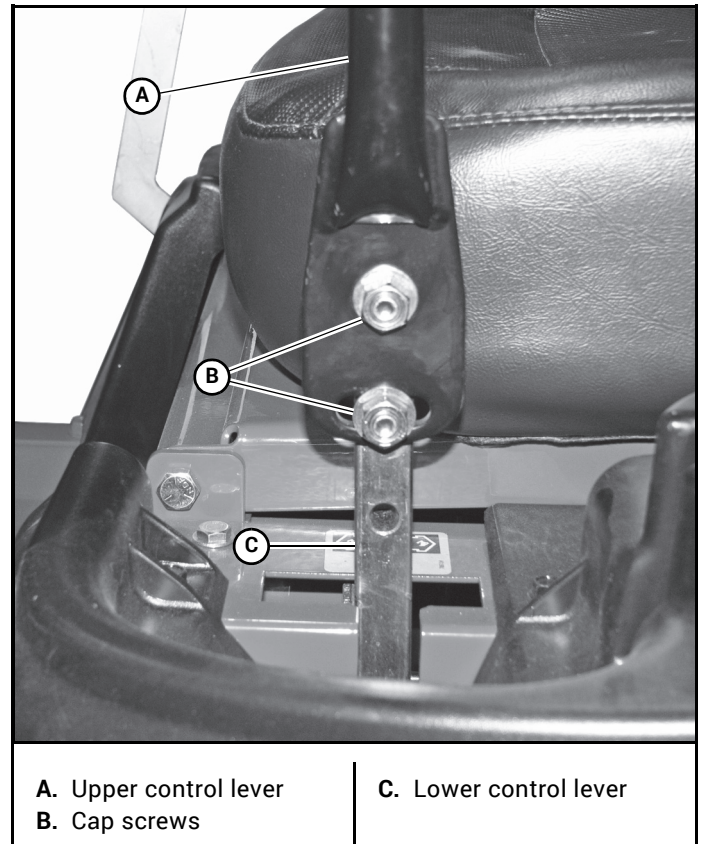

Figure 4-12
- A. To pivot the upper control levers forward or rearward, loosen the cap screws that attach the upper control lever to the lower lever. Then, pivot the upper control lever. Tighten the cap screws. Figure 4-12